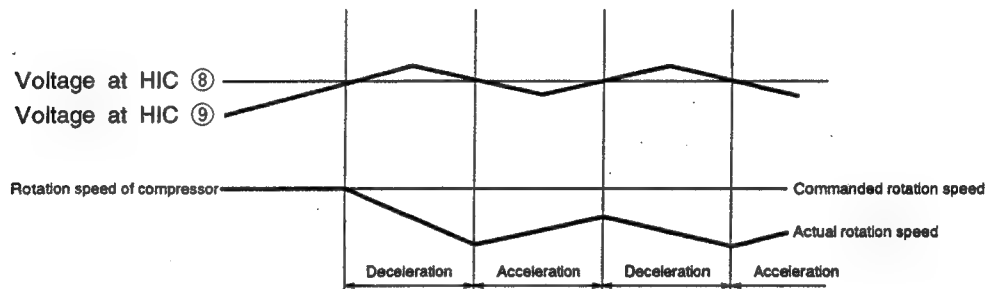

Fig. 8-7
① Overload external judgement circuit.
- The filter consisting of R320 and C1 removes high harmonic components from the voltage generated by the current flowing to R806, R2 and C304 average the voltage. This voltage is then input to OP1 pin ⑤ and amplified and is supplied to micro computer pin ⑫ which is compared with the voltage at pin ⑬. If the voltage at pin ⑫ is higher than that at pin ⑬, the micro computer enters the overload control mode.
- Fig. 8-7 shows the rotation speed control. When the voltage at pin ⑨ of HIC exceeds the set value at pin HIC ⑧, the micro computer decreases the rotation speed of the compressor and reduces the load regardless of the rotation speed commanded by the indoor micro computer.